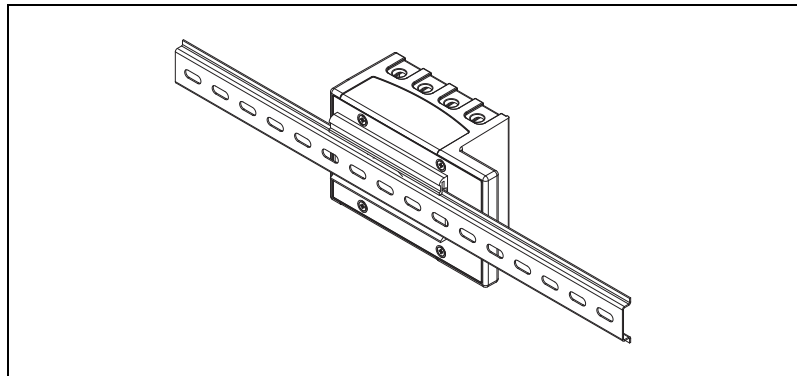

**Figure 4.** Mounting the DIN Rail to the L Brackets of the Slide Assemblies
3. Use a #2 Phillips screwdriver and the four M6×8 screws to attach the DIN rail to the L brackets on the slide assemblies, as shown in Figure 4.